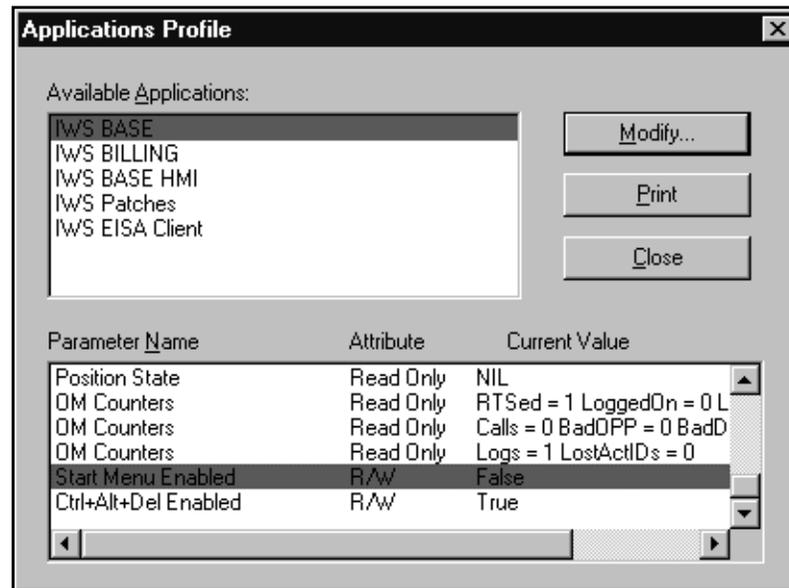

FIGURE 83. Applications Profile Window
- a. Use the down arrow key to highlight the name IWS BASE in the Available Applications box. An example window is shown in Figure 83.
With the parameter Start Menu Enabled set to False as shown in Figure 83, the Ctrl+Esc command at the target position cannot be used to open the Windows Start menu from the IWS logo window. And Alt+Tab cannot be used at the target position to cycle from the IWS logo window to another currently running application.